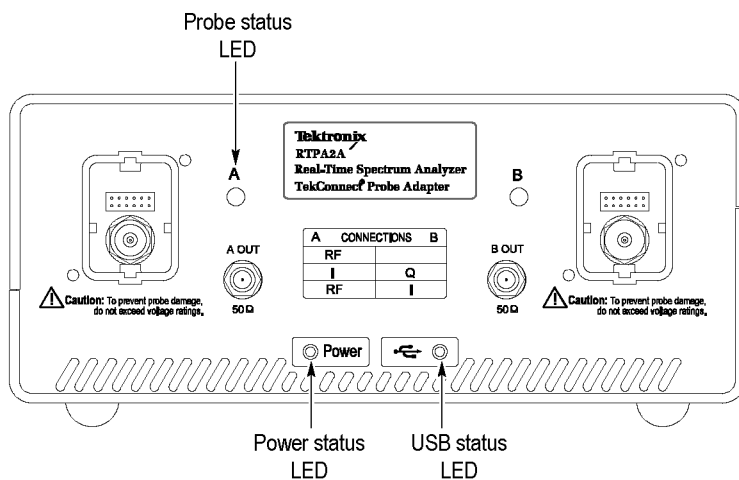

Figure 6: Check for lighted LEDs
3. On the probe adapter, visually check that the LEDs are lighted green. The status LEDs on the probe adapter are lighted only when a probe is attached. The LED locations are shown. (See Figure 6.)